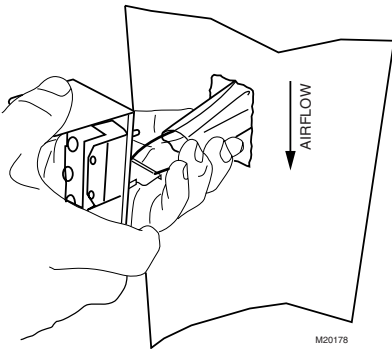

Fig. 13. Inserting sail switch in direction of airflow.
5. Press together the sides of the wire loop. Insert the sail into the duct. (When in the Off position, the sail should point into the direction of airflow as shown in Fig.13.)